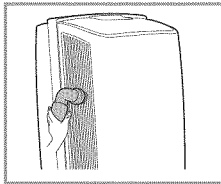

Fig. 4
4. Reattach the **DRAIN CONNECTOR** end of garden hose to the dehumidifier (Fig.4) then check hose for kinks or obstructions. The position of the hose at the floor drain must be lower than **DRAIN CONNECTOR**.
4. Insert the end of hose into the drain hole (Fig.4), then screw **DRAIN CAP** back onto the unit. Place the other end of the hose in the location you want the water to go: to a floor drain, a water container, or through a basement window to the outdoors. (Pump can lift water up to 15 feet above the unit.) Check hose for kinks or other obstruction.
5. SIDE GRILLS can be cleaned using a vacuum cleaner or a soft brush to remove dust. (Fig.4)
6. SIDE GRILLS can be cleaned using a vacuum cleaner or a soft brush to remove dust. CHECK YOUR FILTERS PERIODICALLY TO INSURE PROPER OPERATION. (Fig.4)